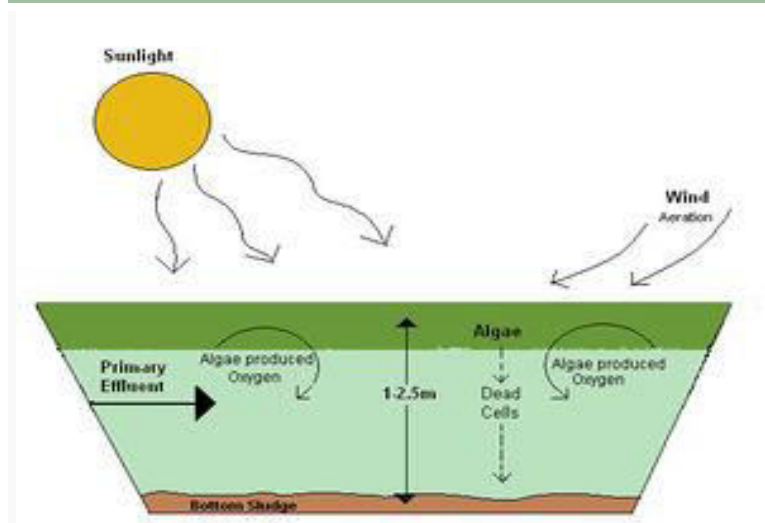

Fig 3: Oxidation pond
**Process:** Oxidation ponds are large and shallow; a typical depth would range from 1-2.5m. The ponds are composed of microorganisms, which feed on the organic matter received from primary effluent. Algae are a key feature in the oxidation pond system. Algae are much like the aeration tank in the activated sludge system; they deliver a steady flow of oxygen to the bacteria. The algae require sunlight to produce oxygen via photosynthesis, reaeration created by wind delivers air flow when sunlight is not available. Overall the process is slow and requires large areas of land. Typically oxidation ponds are used in areas with small populations where land is readily available. Figure 3 shows the basics of an oxidation pond system.